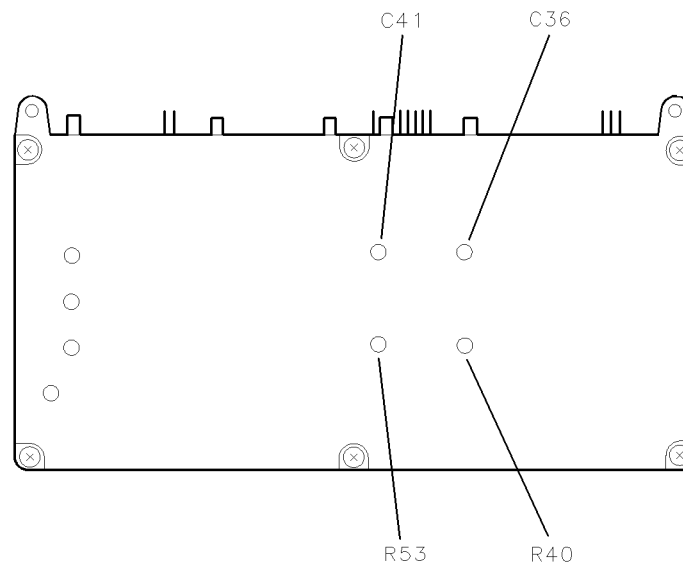

Figure 6-12. Locations for Adjustment 06. 300 MHz Reference Output Amplitude
3. The output circuits are peaked for maximum signal at 300 MHz. A4A1 300 MHz amplifier (C41) tunes the 300 MHz 1 output circuit and A4A1 300 MHz amplifier (C36) tunes the 300 MHz 2 output circuit. Refer to Figure 6-12 for the location of these components.
4. The power out of each rear panel, 300 MHz jack is set to 0 dBm $\pm$ 0.1 dB. A4A1 300 MHz amplifier (R53) adjusts the power out of the 300 MHz 1 jack. A4A1 300 MHz amplifier (R40) adjusts the power out of the 300 MHz 2 jack. See Figure 6-12 for the location of these components.